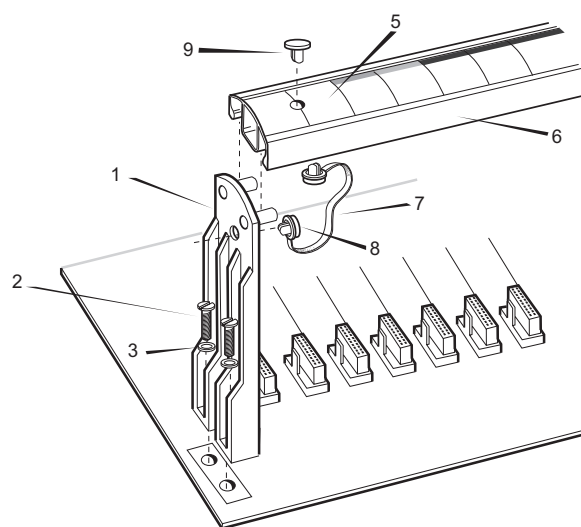

Figure 4.7: Mounting a tagging-strip post
- b) Attach each mounting post (1) to the backplane with two M3 x 12mm mounting screws (2) and washers (3) (Figure 4.7).
- c) Slide the tag label (5) into the plastic holder (6) and retain with a plastic rivet (9) (Figure 4.7).
- d) Attach the plastic retaining tie (7) with two plastic rivets (8) (Figure 4.7).